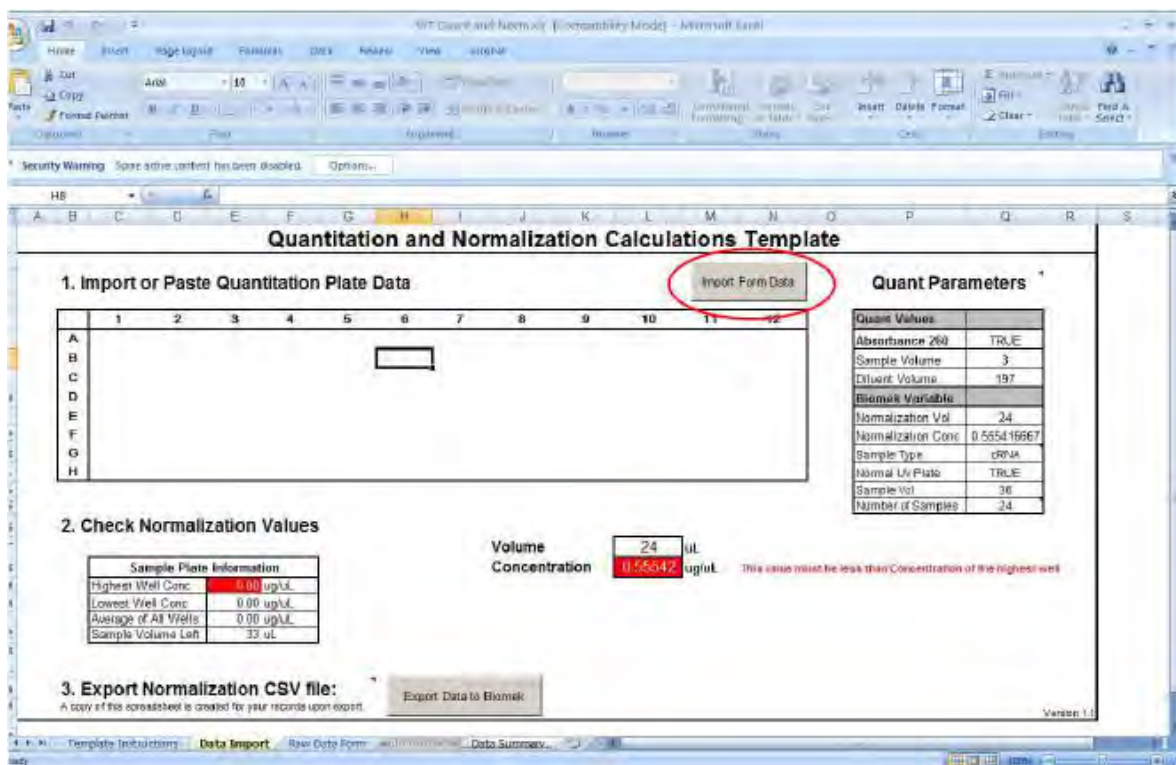

Figure 29 WT quant and norm.xls template.
Note: The WT Quant and Norm.xls template (Figure 29) opens in the background waiting for OD data.
13. Return to the WT Quant and Norm.xls template (Figure 29).